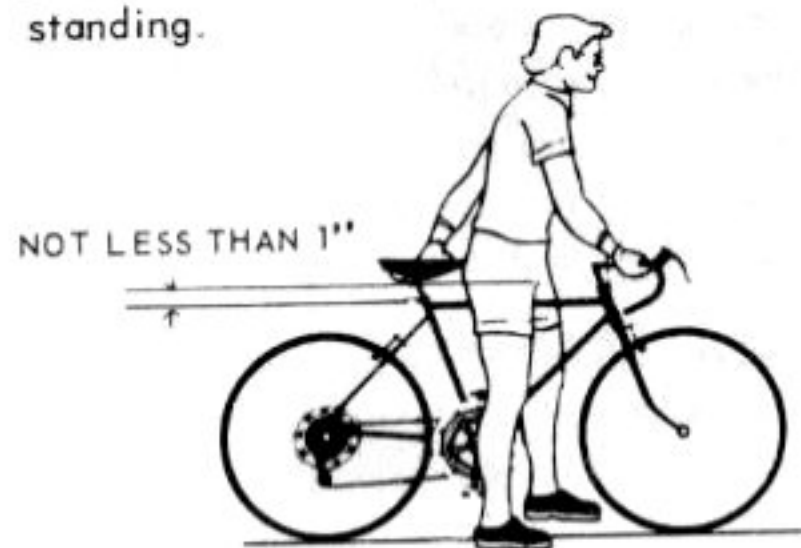

FIGURE 2
- B. As a final check straddle the frame (see figure 2). The rider must be able to straddle the bicycle with at least 1" clearance above the horizontal bar when standing.